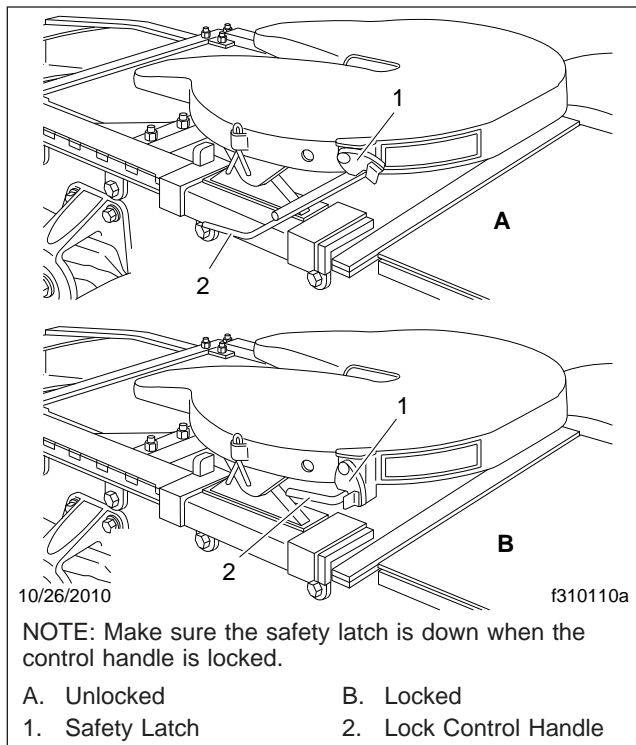
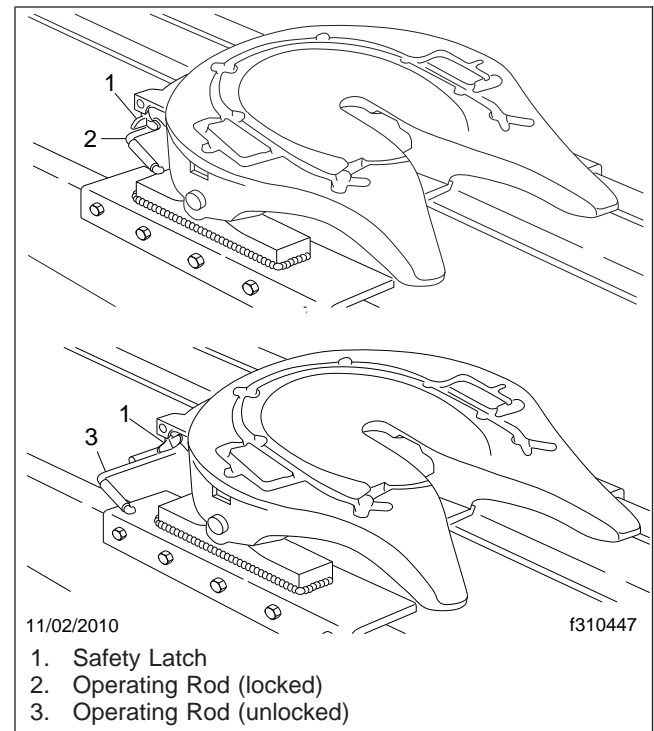

Fig. 18.2, Fontaine Locking Mechanism
Fig. 18.3, Holland Simplex SE Locking Mechanism
2. Ensure the fifth wheel jaw is fully open and the operating rod is in the unlocked position. See Fig. 18.2 or Fig. 18.3.
When lockup has occurred, the fifth wheel control handle moves to the locked position. Make sure that the safety latch is down over the lock control handle to hold the control handle in the locked position. (The safety latch will only rotate down if the operating rod is fully retracted in the locked position.) See **Fig. 18.2** for Fontaine fifth wheels. See **Fig. 18.3** for Holland fifth wheels.
- Fontaine:** Lift the safety latch and pull the lock control handle to the unlocked position. See Fig. 18.2.